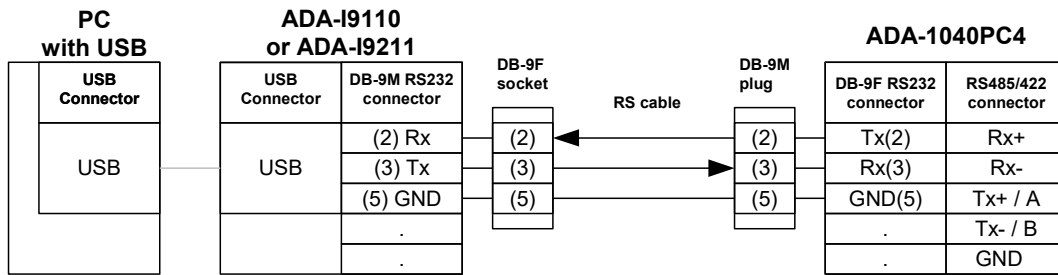

Fig. 5. ADA-1040PC4 connection to PC by the use of additional converter USB to RS232 (ADA-I9211 or ADA-I9110).
- USB computer port, should be used additional converter USB to RS232 (eg. ADA-I9211 or ADA-I9110), which connect to RS232 port of ADA-1040PC3 as on diagram Fig.5.